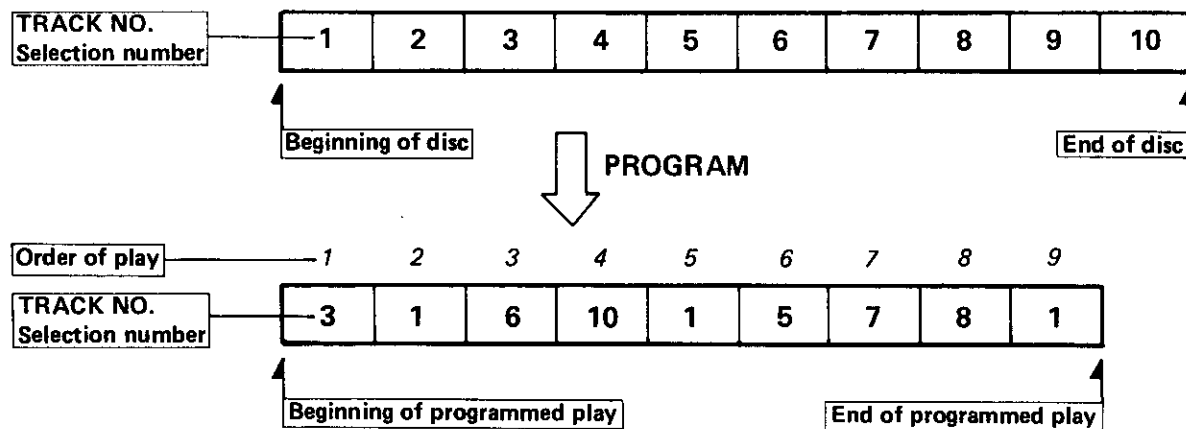

Fig. 7
Example (Fig. 7):
2. First, decide the type of programmed play you want. The procedure for the programmed play shown in the example (Fig. 7) above is as follows.